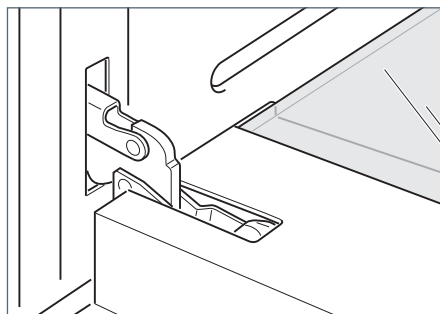

Fig.40a
- 1 Open the door to its full extent (Fig.40a).